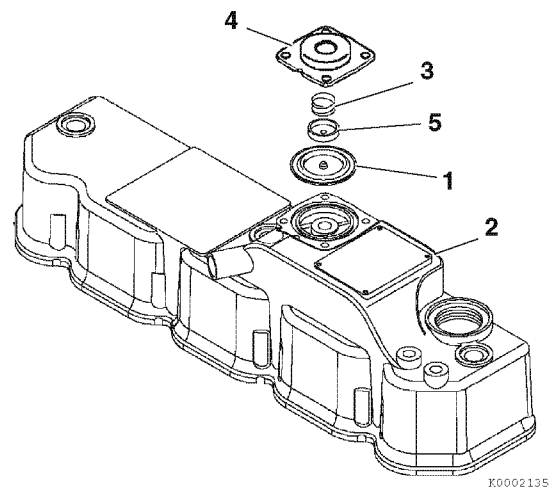

Figure 5-17
The non-turbo TNV engines use a crankcase breather system that has a spring-backed diaphragm (Figure 5-17, (1)) in the valve cover (Figure 5-17, (2)). When the crankcase pressure reaches a predetermined value, the diaphragm opens a passage that allows crankcase fumes to be routed to the intake manifold.
To inspect the diaphragm and spring (Figure 5-17, (3)):
1. Remove the bolts retaining the diaphragm cover (Figure 5-17, (4)).
2. Remove the diaphragm cover, spring, diaphragm plate (Figure 5-17, (5)) and diaphragm.